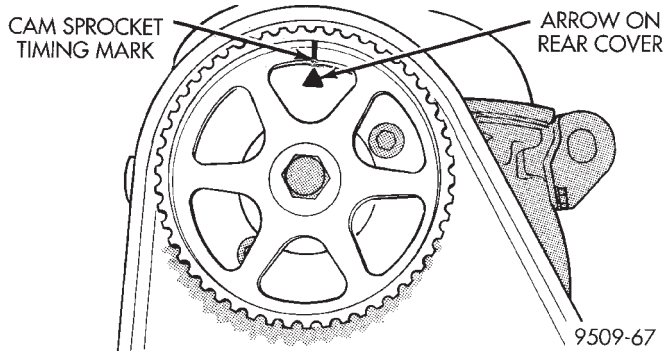

Fig. 68 Camshaft Timing Mark
(5) Set camshaft to TDC by aligning mark on sprocket with the arrow on the rear of timing belt cover (Fig. 68).